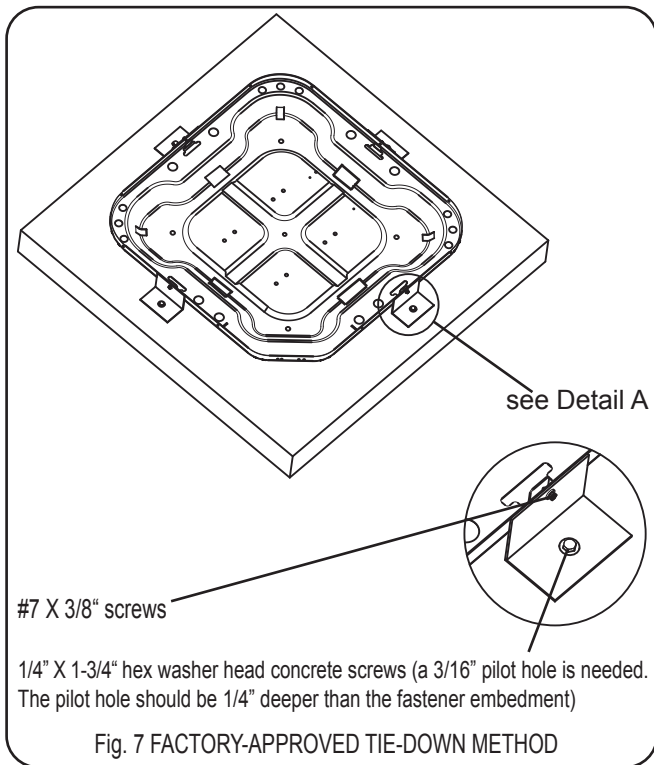

Fig. 7 FACTORY-APPROVED TIE-DOWN METHOD
Step 4: Fasten 4 L-shaped stainless steel braces onto the cabinet base using 4 1/4" \* 1/2" hex washer head stainless steel self-tapping screws where indicated by Detail A in Fig.7.
Do not use screws longer than the indicated 1/4" \* 2/3" and make sure that the brace is attached on the center of the base bar as indicated in Fig. 7. Damage to the system may otherwise occur .